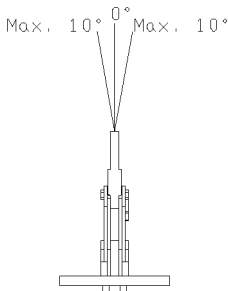

Figure 2: Never exceed ten degrees (10°) side loading with an “HL-Lock” model clamp.
6. Never exceed ten degrees (10°) side loading (Fig. 2).
- Never exceed ten degrees (10°) side loading with an “HL-Lock” model clamp (Fig. 2).